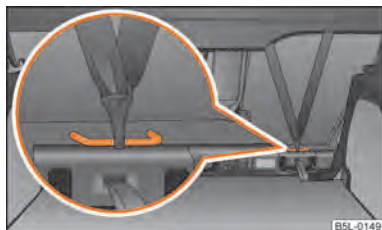

Fig. 136 Rear seat: Top Tether
In certain countries national legal provisions also require the equipment of the rear seat with fixing eyes for child seat using the "Top Tether" system → fig. 136.
- Attach the child seats with the "Top Tether" system only to the points provided for this purpose → fig. 136.